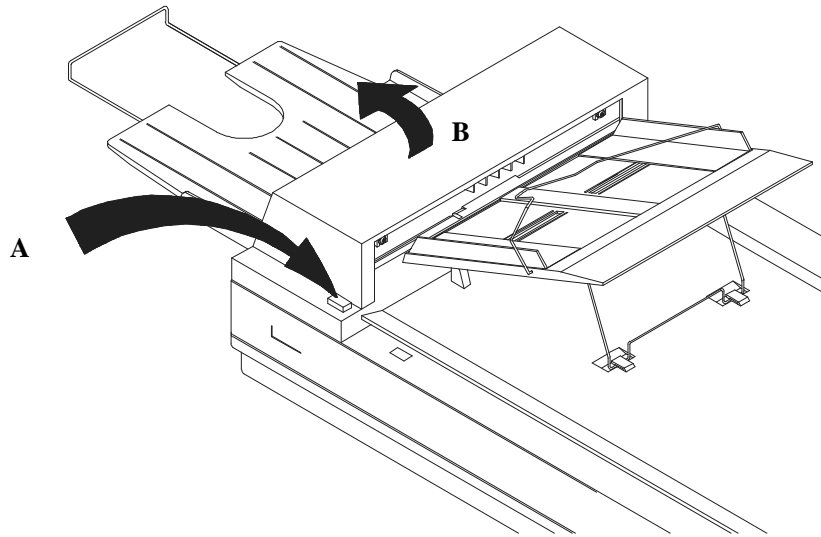

Figure 4.1 - ADF Paper Jam - Opening the ADF
- i) Press the button at the front left of the Scanner as shown in Figure 4-1, arrow A. The ADF cover will be released.